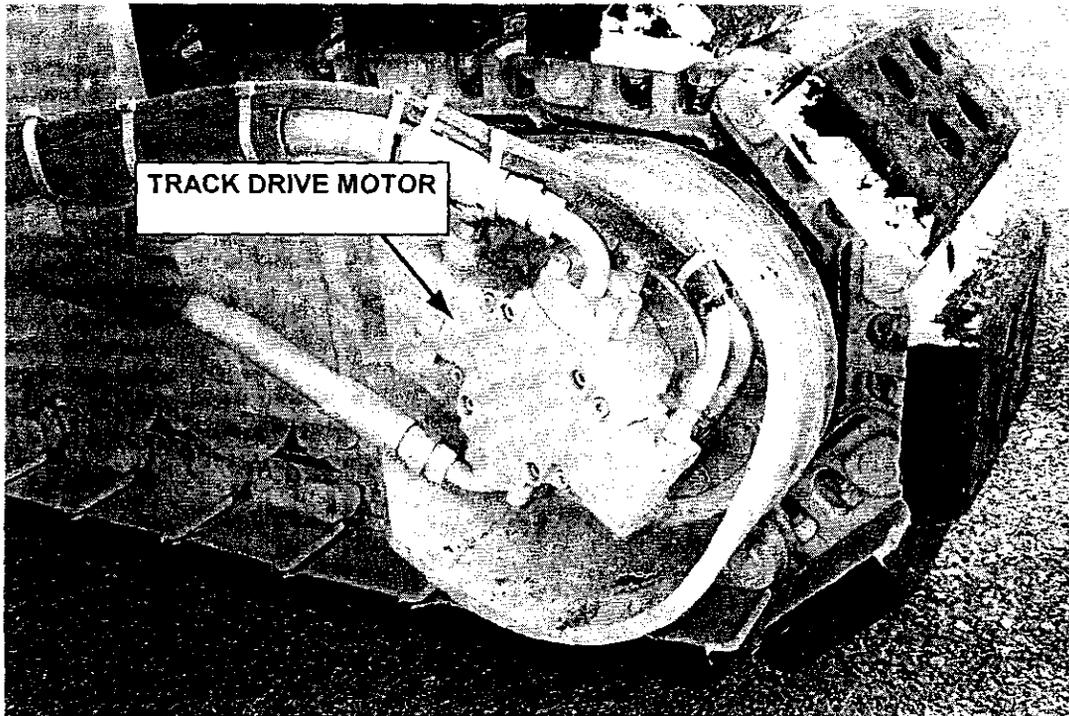

FIGURE 6
**TRACK DRIVE MOTORS** – The track drive motors are Rexroth A6VE bent axis motors with a max displacement of 28cc and a minimum displacement of 10cc (figure 6).